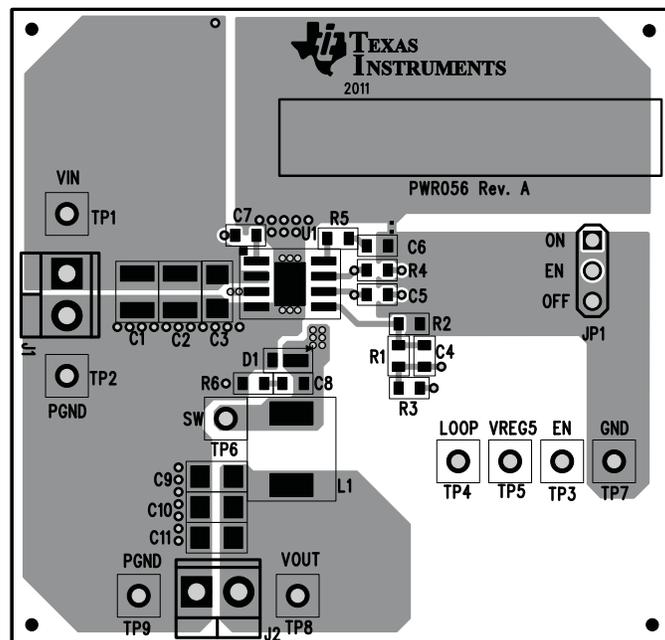
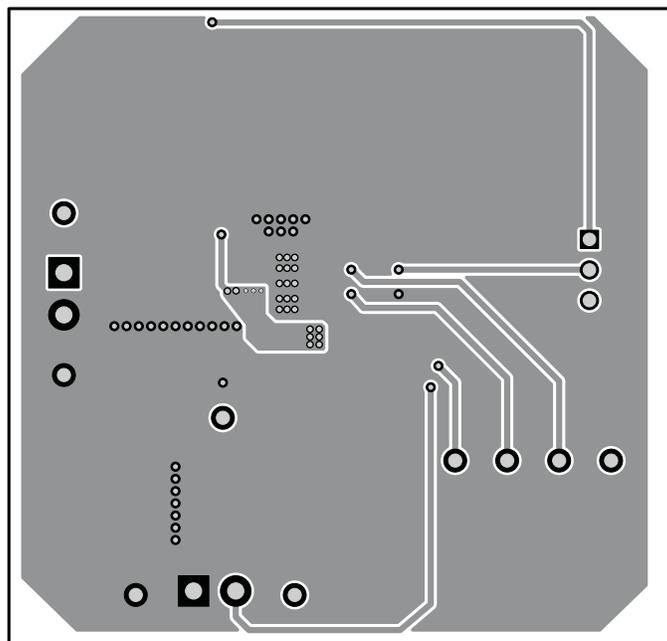

Figure 13. Top Assembly
Figure 17. Bottom Layer
The board layout for the TPS54339EVM-056 is shown in Figure 13 through Figure 17. The top layer contains the main power traces for VIN, VO, and ground. Also on the top layer are connections for the pins of the TPS54339 and a large area filled with ground. Many of the signal traces also are located on the top side. The input decoupling capacitors are located as close to the IC as possible. The input and output connectors, test points, and all of the components are located on the top side. An analog ground (GND) area is provided on the top side. Analog ground (GND) and power ground (PGND) are connected at a single point on the top layer near C6. The two internal layers are completely dedicated to power ground planes. The bottom layer is primarily power ground. A copper pour area on the bottom layer is used to connect the switching node (SW) to the output inductor and the boost capacitor. Traces also connect enable control jumper, EN, VREG5, and LOOP test points, and the feedback trace from VOUT to the voltage setpoint divider network.